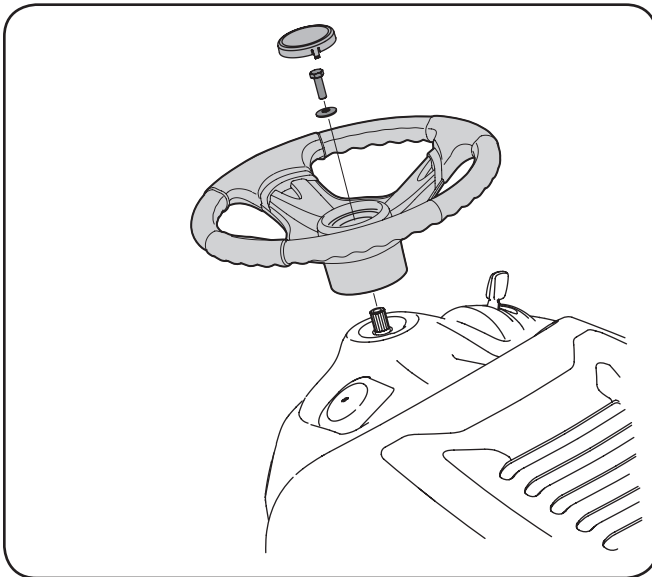

Figure 3-3
2. Place the washer (with the cupped side down) over the steering wheel and secure with the hex bolt. See Figure 3-3.